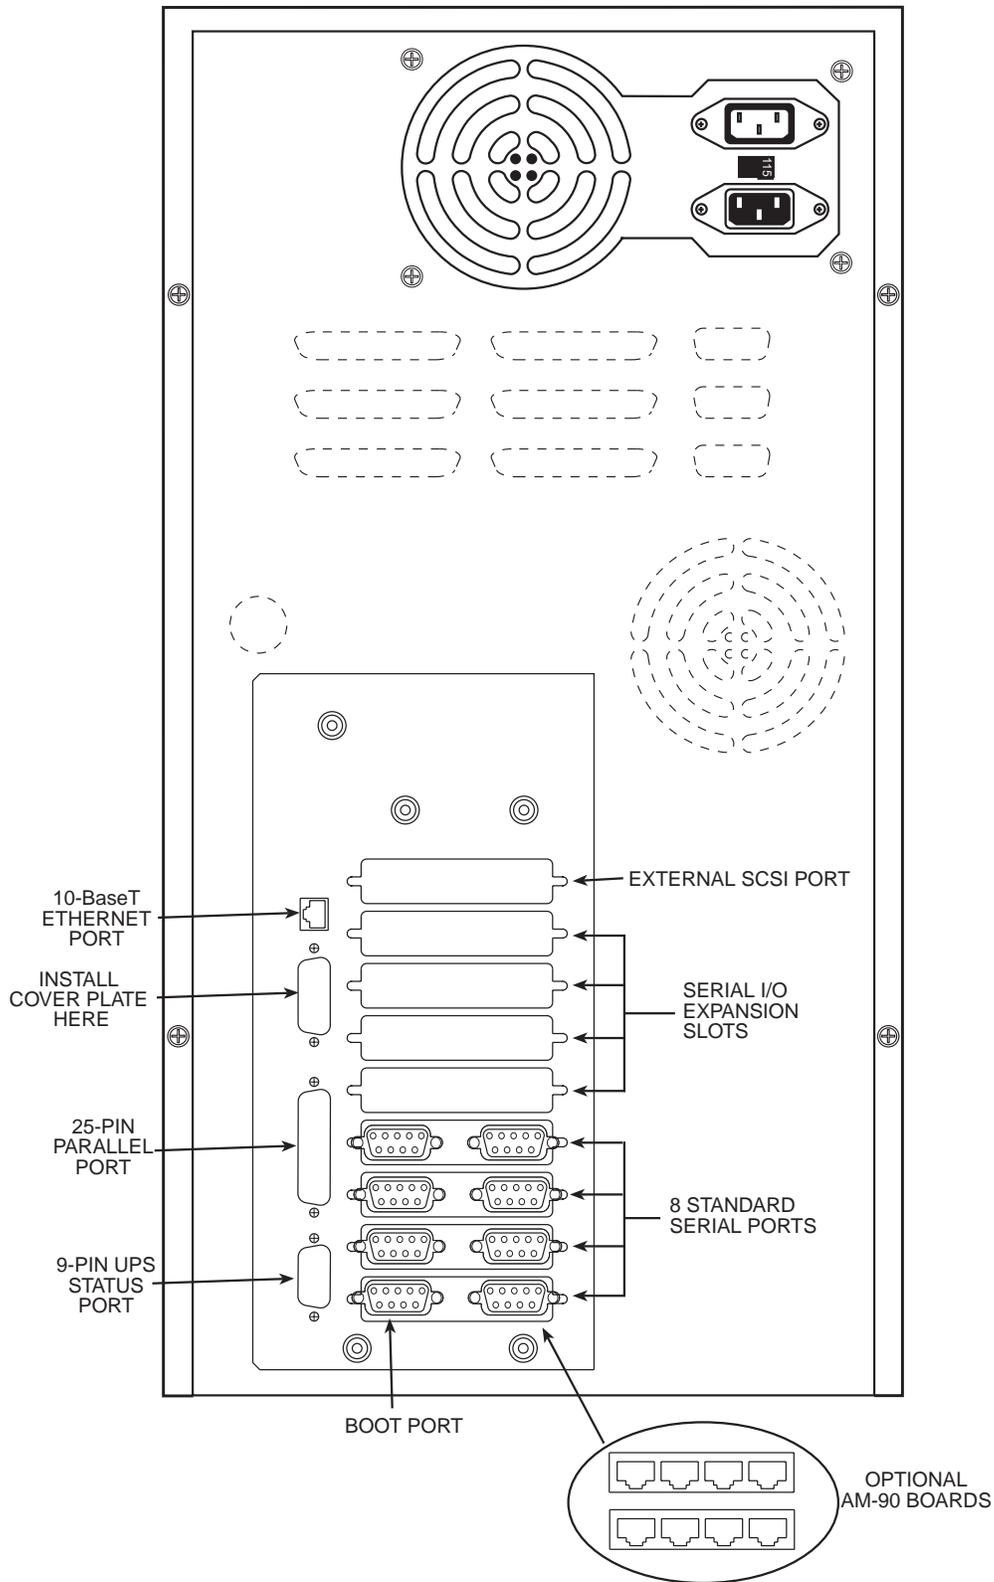

Figure 7-7: Eagle 250 Rear Panel (Old Style Chassis)
5. If you purchased the optional AM-90 Lightning boards for the eight on-board serial I/O ports, install them into each of the two bottom rear panel I/O slots (see Figure 7-7). Attach the cable from the board for ports 0-3 at P1 on the AM-138-10; attach the cable from ports 4-7 at P2.